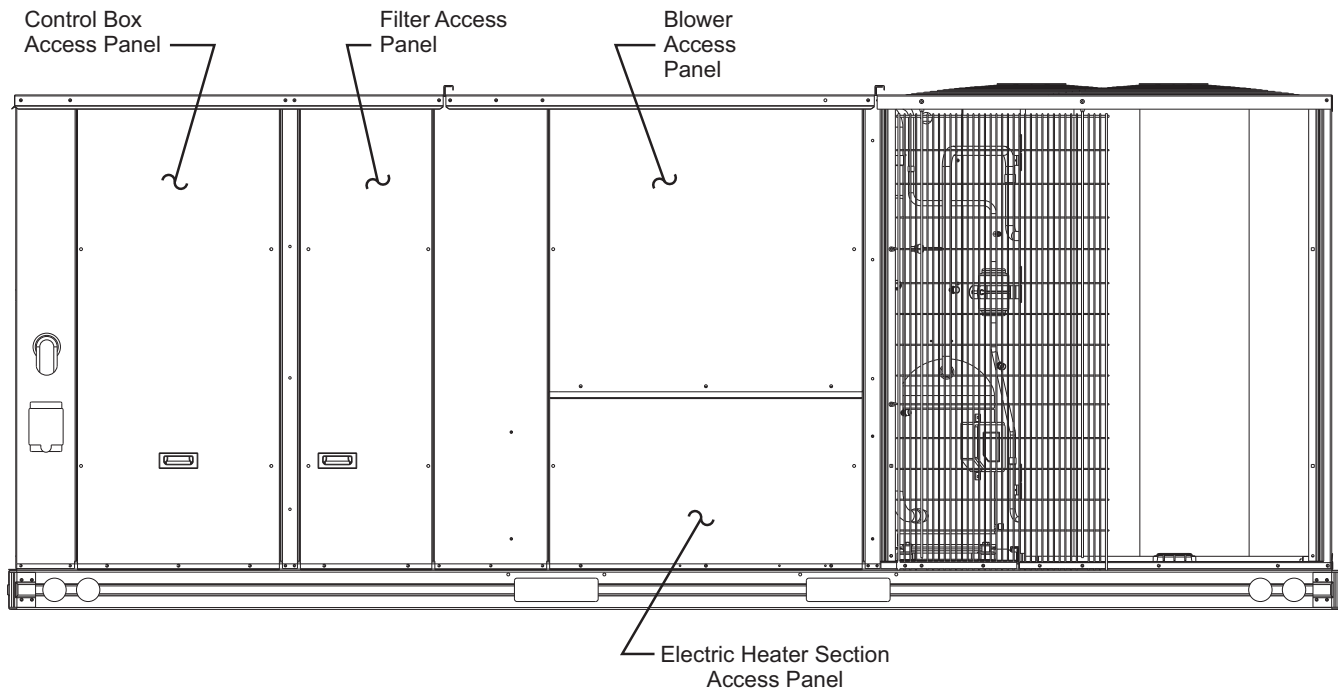

Fig. 45 — Typical Unit – Access Panel Locations
2. Remove electric heater section access panel, control box access panel, filter access panel, and blower access panel from base rooftop unit. (See Fig. 45.)